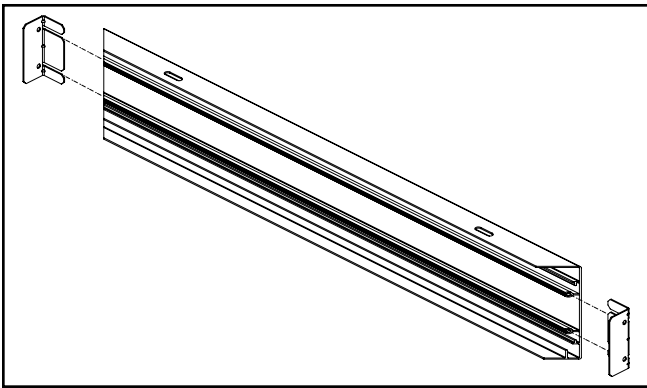

Figure 13.
- C1. Insert L-brackets into the slot on each side of one of the type "B" rails. (Figure 13.)